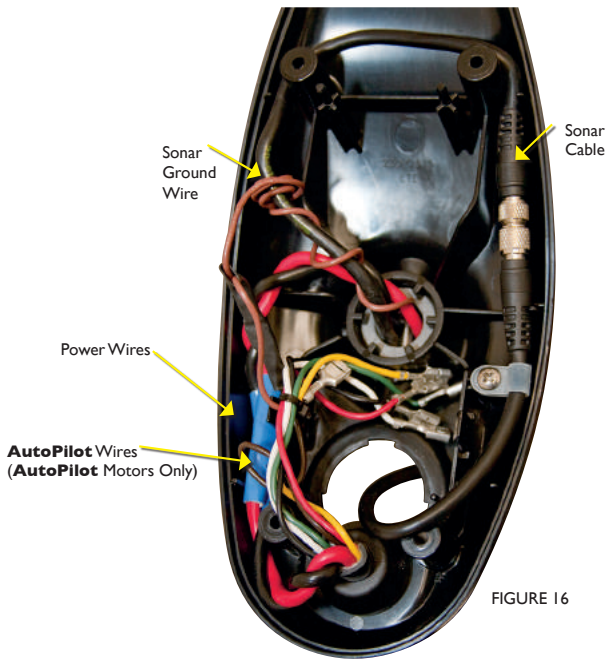

FIGURE 16
- a. If a sonar cable is present, it must be routed around the outer perimeter of the control box. The sonar ground wire should also be routed as shown. (Figure 16)
- b. The motor power wires must be routed as shown. (Figure 16)